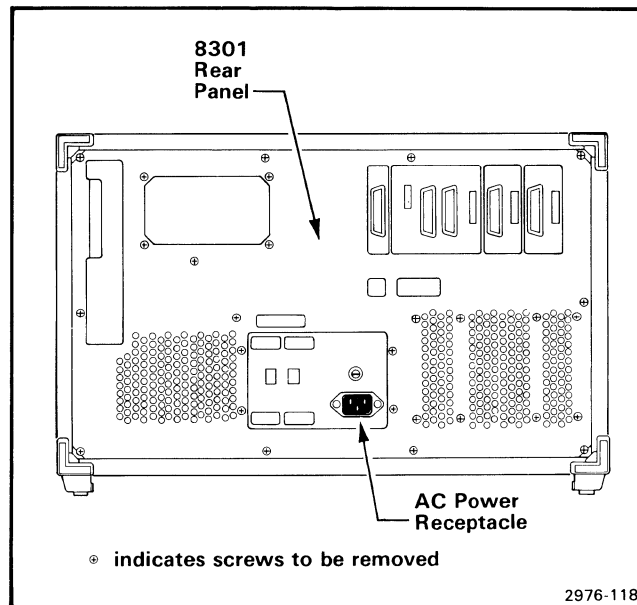

Fig. 8-7. 8301 Rear Panel.
10. The 8301 rear panel must be removed. Figure 8-7 shows the screws that must be removed. Remove the screws in the rear panel. When the panel is loose, disconnect any remaining wiring and lay the panel carefully aside.
11. The ac power cord receptacle is mounted on the bracket shown in Fig. 8-7. The bracket is held to the chassis by two screws along the lower edge. Remove the screws and swing the bracket aside. Avoid damaging the wiring.